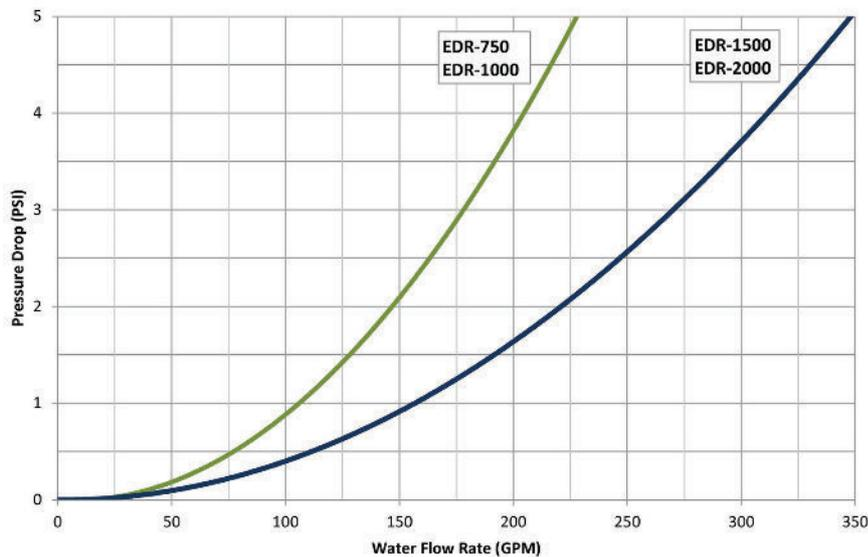

FIGURE 3 - TYPICAL WATER SIDE PRESSURE DROP
- Select secondary (system) pump(s) with sufficient total dynamic head for the pressure drop of the loop at design flow. See Figure 3 for the boiler water pressure drop. This boiler will automatically perform a safe shutdown in the event of a low flow condition; however, proper design flow is required to deliver heat to the users and prevent nuisance lockouts.
- Install the dedicated boiler circulator on the inlet side of the boiler, pumping into the return connection. Select pump(s) with sufficient total dynamic head for the pressure drop of the loop at design flow. See Figure 3 for the boiler water pressure drop.